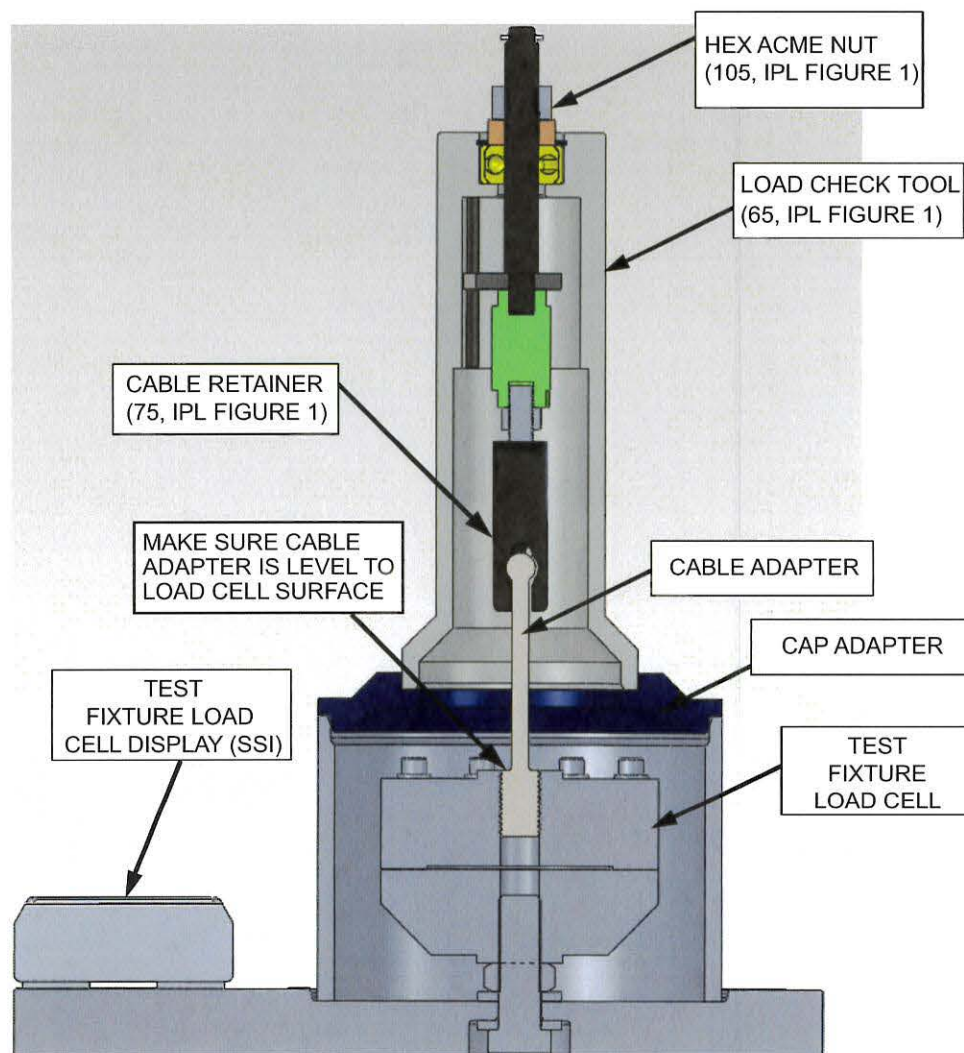

Figure 2-1. Load Check Tool Installation on Test Fixture
- (5) Orient the load check tool (65, IPL Figure 1) so that the hex ACME nut (105, IPL Figure 1) is facing up. Install the load check tool (65, IPL Figure 1) onto the FLCT Test Fixture, P/N T49900-875LTF1, by attaching the cable retainer (75, IPL Figure 1) of the tool to the cable adapter on the FLCT Test Fixture. See Figure 2-1.